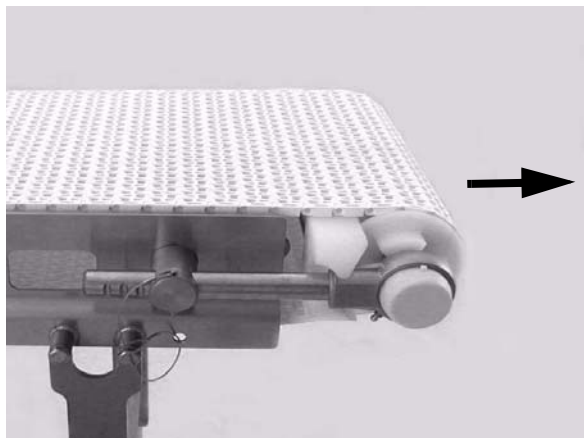

Figure 39
7. Extend the tension end to remove excess slack in the belt (**Figure 39**).